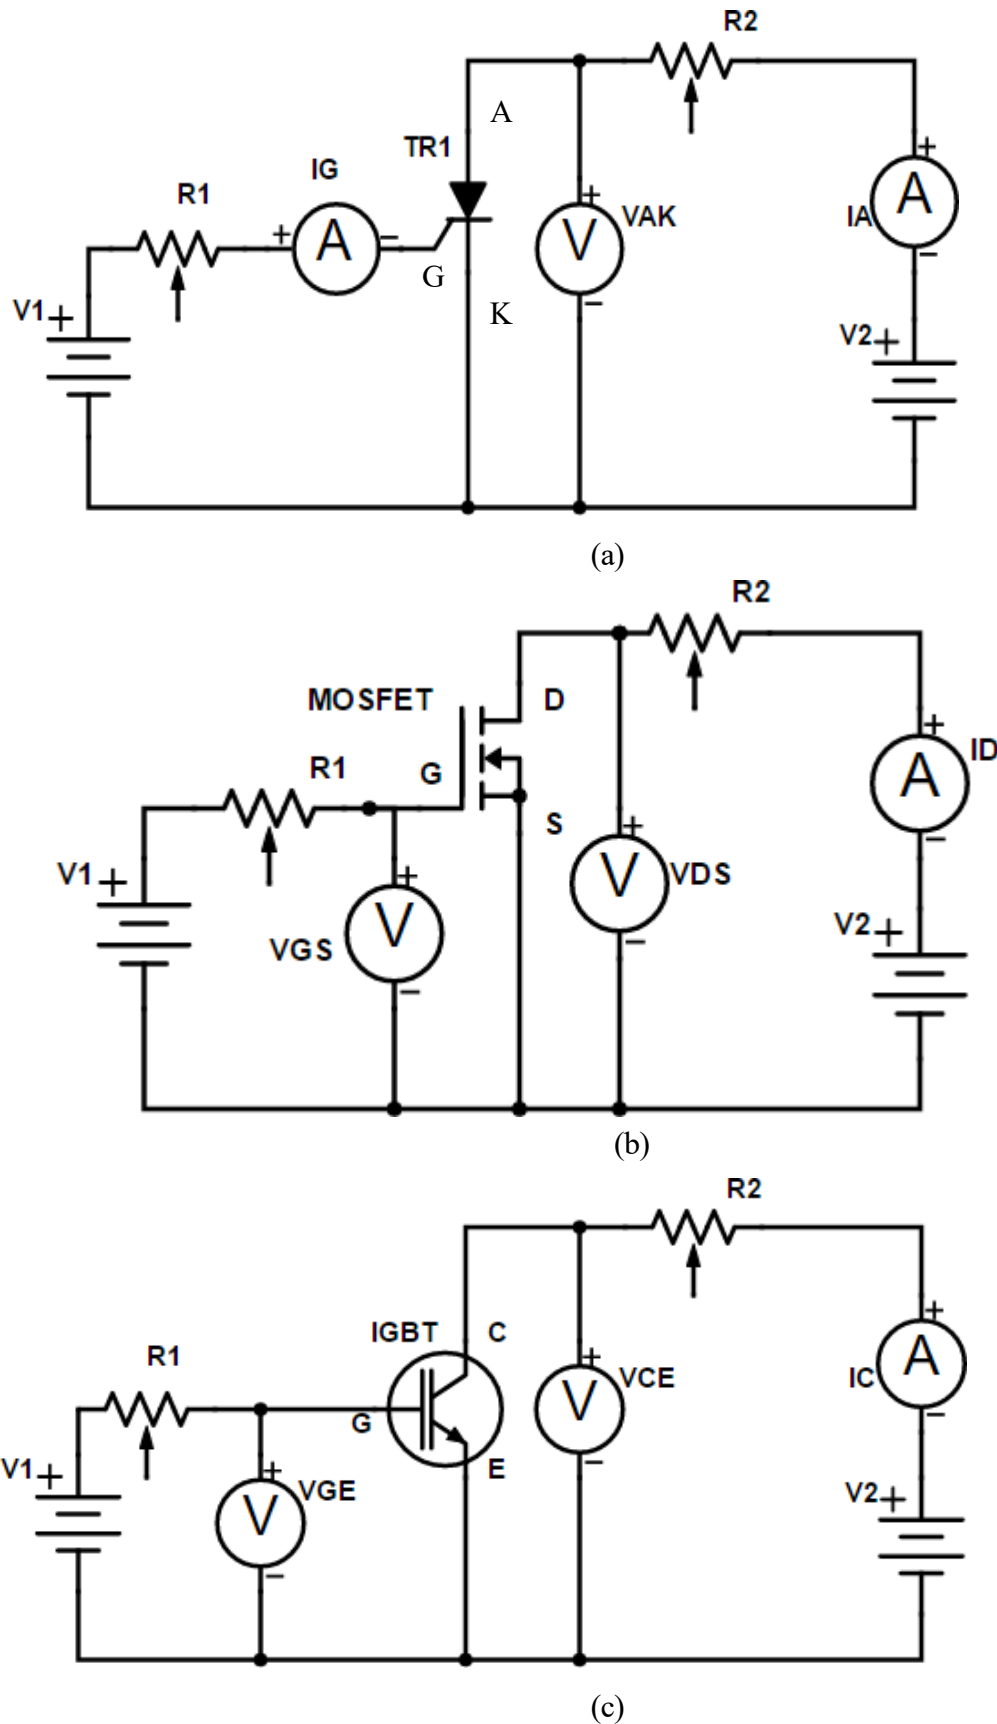

Fig.1.1. Connection diagram to plot V-I characteristics of (a) SCR, (b) MOSFET and (c) IGBT
1. Connections are made as per the circuit diagram given in Fig. 1.1 (a).
1. Connect the circuit as given in Fig. 1.1 (b).
1. Connect the circuit as given in Fig. 1.1 (c).